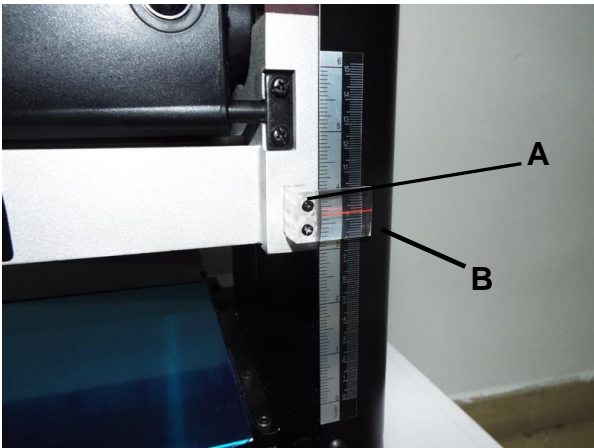

FIG. 6
The thickness scale, located on the right of the planer, shows the thickness of the finished workpiece. To make sure the scale is set properly, run a piece of wood through the planer and measure the thickness of the wood. If the scale is out of alignment, loosen the two round head screws (A) holding the scale indicator (B) and adjust the thickness indicator to the correct setting. Make sure to re-tighten the two screws once the adjustment is complete. FIG 6